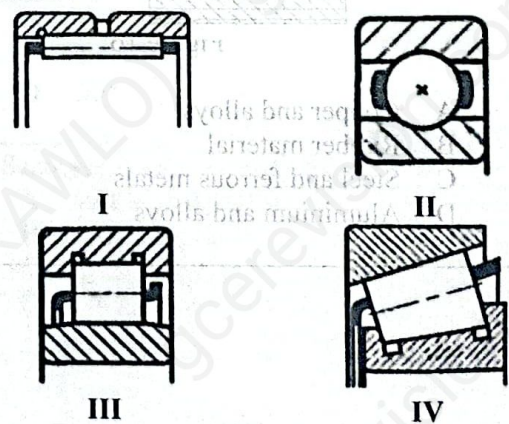

Figure 22
37. Choose a ball bearing among the bearings in figure 22 below.